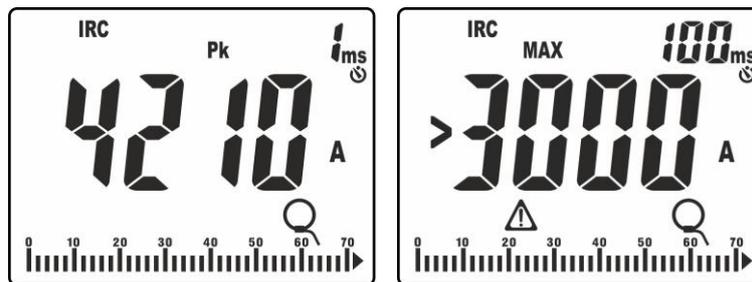

Fig. 44: Examples of display of inrush current
- Peak value “Pk” calculated in **1ms** (see Fig. 44 – left side)
11. If the measured current is higher than the set FS of the clamp, a message like the one in Fig. 44 – right side (relevant to FS = 3000A) is shown on the display.